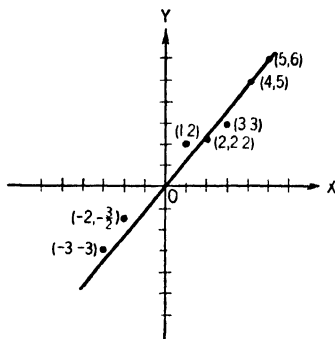

FIG. 274. LINE FITTING POINTS
Usually a curve approximating the plotted data can be drawn, and an equation of the curve can then be obtained. In Fig. 274 some points have been plotted, and a straight line has been drawn arbitrarily which approximately fits the points. This line is a reasonable choice because it passes near all of the points. Since it passes through the points $(0, 0)$ and $(5, 6)$, by the two-point formula (73) an equation of the line is
For the example of Fig. 274,
For the points of Fig. 274 the average a is
correct to one decimal place. The horizontal line which best fits these points by the method of least squares is the line $y = 2.0$. Of course, it is evident that a sloping line such as the one shown in Fig. 274 is a far better representation of these points than any horizontal line. In practice the line $y = a$ should be used only if the points lie approximately along such a line.